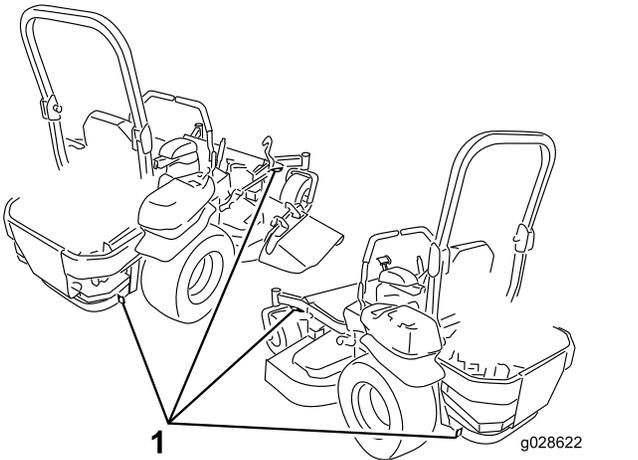

Figure 44
6. Tie down the machine near the front caster wheels and the rear bumper with straps, chains, cable, or ropes (Figure 44). Refer to local regulations for tie-down requirements.